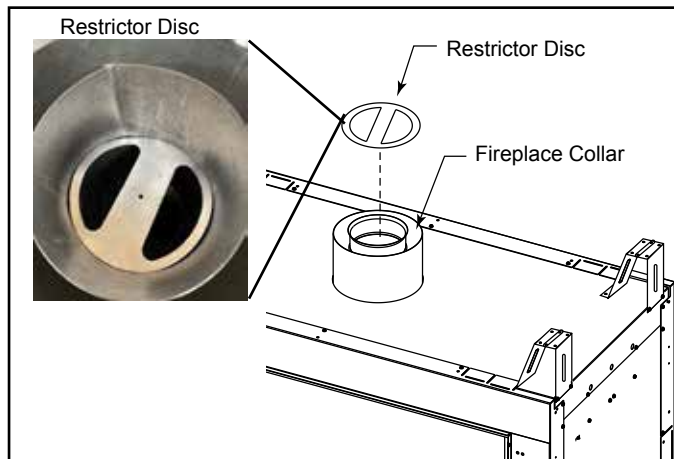

Figure 5.11 Install Restrictor Disc into Fireplace Collar
Install restrictor disc as shown in *Figure 5.11* for vertically vented applications. Restrictor disc can be slightly deformed to fit properly. Up to two (2) restrictor discs may be needed for 40' installation. The two (2) restrictor discs supplied will work for most installations. If a third disc is needed order part number 56D3027.